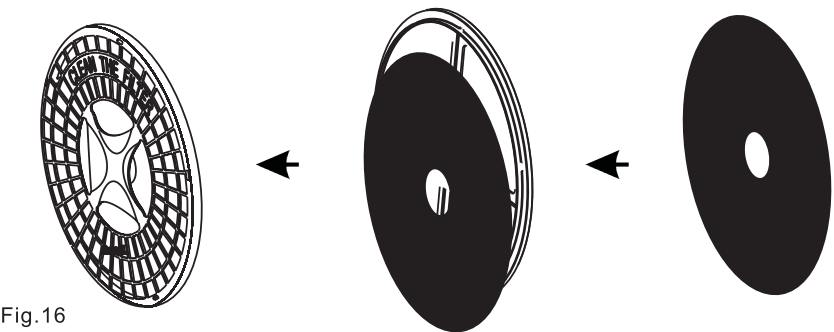

Fig.16
3. After cleaning the Lint Filter, you must re-assemble the parts in the correct sequence ( Lint Filter - Exhaust Filter - Exhaust Vent Shroud), aligning the recesses in the centre with the projection in the centre of the Tumble Dryer Drum. Make sure that the Filter Assembly is firmly inserted (Fig.16).